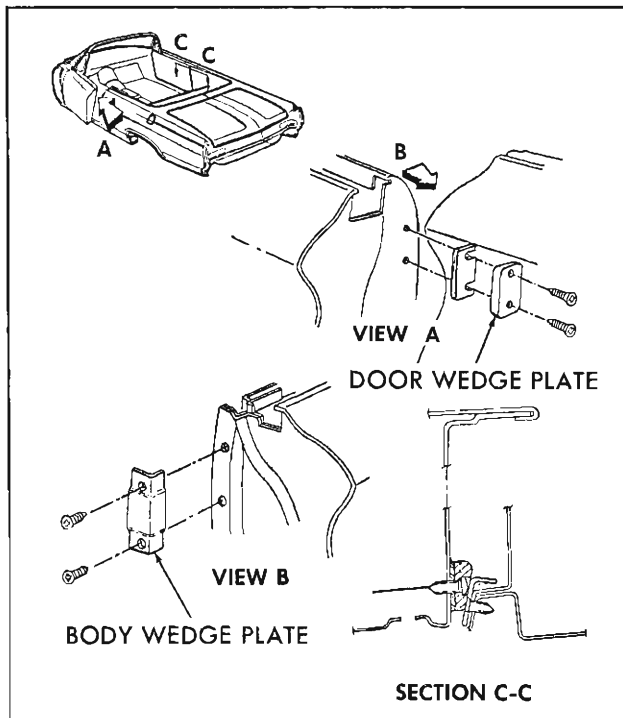

Fig. 29—Body Wedge Plates
1. Remove two screws securing wedge plate to body panel and remove wedge plate (See Figure 29).